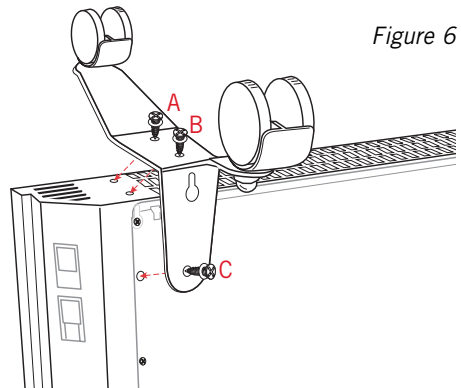

Figure 6
1. Position the wheel assembly over the base of the heater, with the vertical bracket to the rear of the unit, as shown in Figure 6.
2. Align the screw hole in the vertical bracket (C) with the screw hole in the rear of the heater. Place the washer on the screw, insert the screw and fix loosely. Do not tighten.